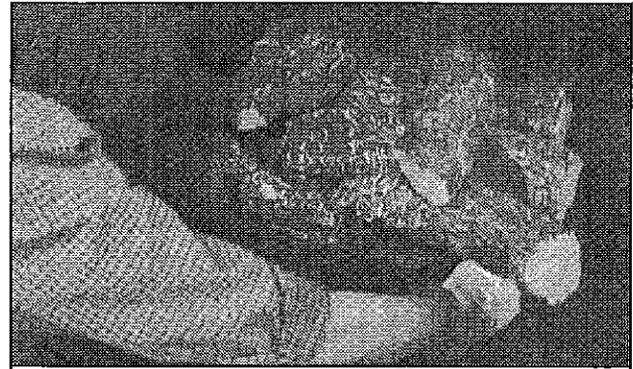

Figure 3.7 Removing Grate & Logs
- Remove the log set (GCBC, GCDC and Designers) by removing two screws, one at each end of the grate. Grasp the grate as shown in Figure 3.7 and pull the log/grate assembly up and off the burner.